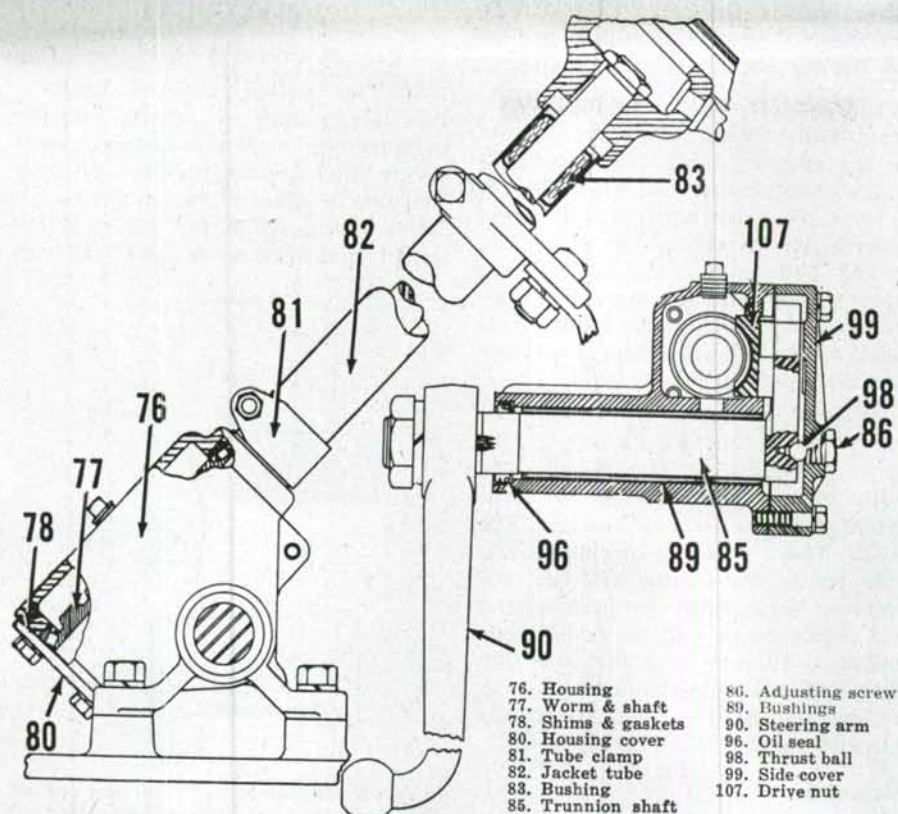

Fig. AC21—Lavine steering gear assembly as used on early production model WF tractor.
26. WORM SHAFT END PLAY. To reduce play in worm shaft bearings, remove shims (78—Fig. AC21) from between housing lower cover (80) and housing (76). All end play should be removed from worm gear but shaft should not bind.
27. GEAR MESH. Locate mid-position of steering gear, with drag link disconnected, by turning steering wheel from one extreme position to the other, then back half way. With gear in mid-position, loosen locknut and turn adjusting screw (86) clockwise to reduce end play in trunnion shaft (85). Be sure housing cover retaining cap screws are tight when making this adjustment. When end play in the trunnion shaft is reduced, drive nut (107) is meshed deeper into worm gear (77) and backlash is re-
28. OVERHAUL. Gear unit should be removed from tractor. Procedure for disassembly is readily evident from an examination of Fig. AC21.